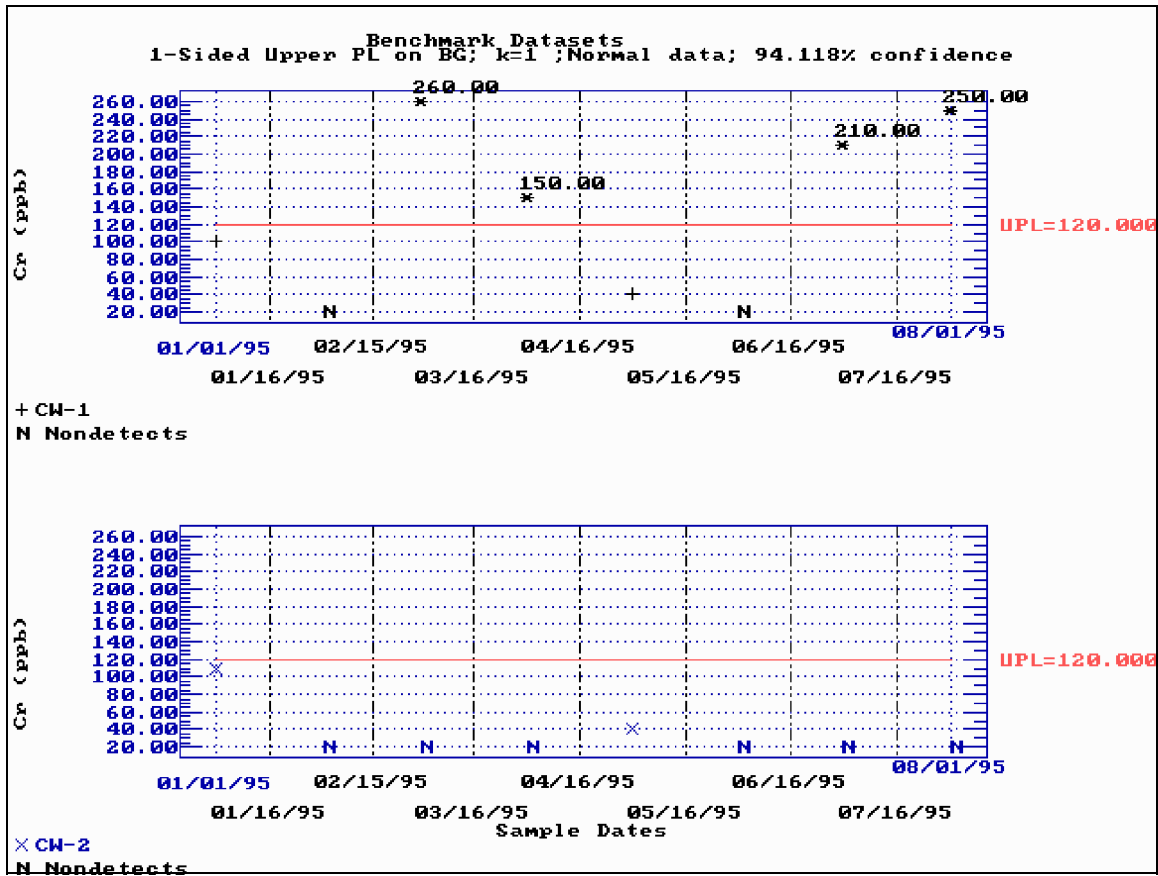

Figure 5-85. Upper Prediction Limit (UPL) from a one-sided upper Non-parametric Interval superimposed on scatter plots of observations from wells CW-1 and CW-2.
10. Use the Reports | Display option to view a graphical representation of the Parametric Prediction Interval results (Figure 5-85). Observations that fall outside of the Prediction Interval are shown as asterisks (*).